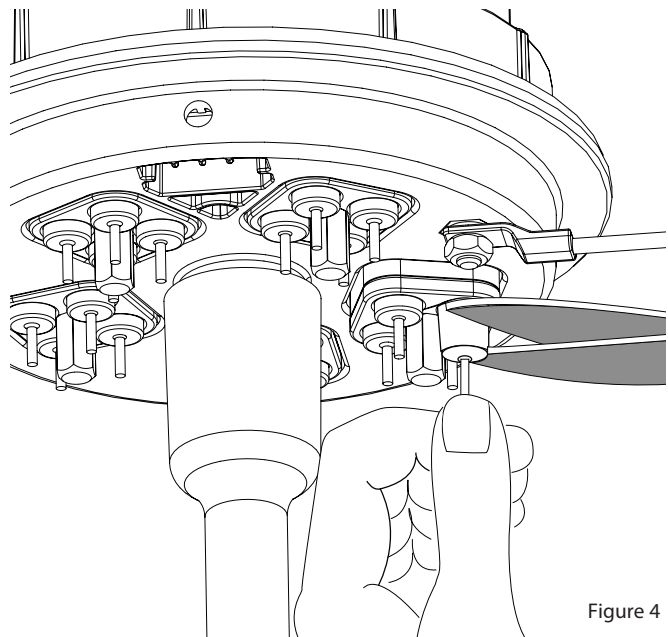

Figure 4
2. Pull downward on the stem on the bottom of the black grommet cap and cut off approximately 1/8" of the cap with snips. (Figure 4)